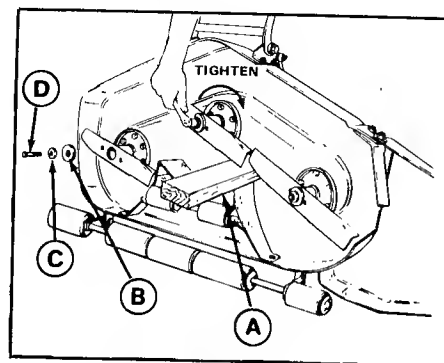

Figure 15. Install Blade
6. Reinstall each blade with the tabs pointing up toward deck and secure with a capscrew, cup washer, and spline washer. Be sure spline washer is aligned with shaft splines. Use a wooden block to prevent blade rotation (figure 15) and torque capscrews from 45 to 55 ft. lbs. (61 to 74.6 N.m).